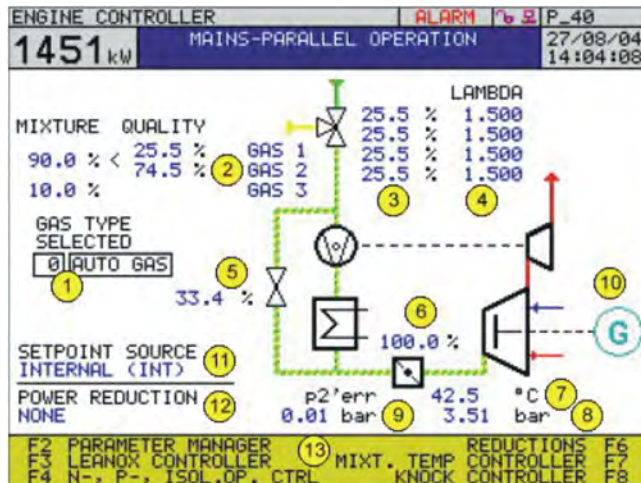

Figure 2: Engine controller overview screen with mixed gas extensions
When changing between modes, the current gas type 1_2, gas type 3 or gas type 1_2/3 (mixed gas) remains unchanged. In the input field (see Figure 2: Engine controller overview screen with mixed gas extensions ❶) **Gas 1_2**, **Gas 3** and **Gas 1_2/3** can be selected.
When changing between modes, the current gas type 1, gas type 3 or gas type 1/3 (mixed gas) remains unchanged. In the input field (see Figure 2: Engine controller overview screen with mixed gas extensions ❶) **Gas 1_2**, **Gas 3** and **Gas 1_2/3** can be selected.
Using the Autogas selection option (see Figure 2: Engine controller overview screen with mixed gas extensions ❶) manual selection of the gas type can be deactivated. In this case, the selection is activated depending on the control inputs.